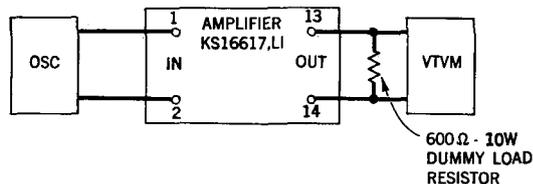

Fig. 7 - Test Setup for Adjusting Voice-Operated Relay Circuit
7.01 The voice-operated relay circuit is adjusted by means of the OPERATE and RELEASE controls on the apparatus side of the chassis. These controls should be adjusted with the amplifier in the same position it would be when mounted in the bay since its position has a bearing on the relay operate and release currents. The test setup is shown in Fig. 7. Chart VII outlines the step procedure to be followed in making the test. This is a performance test. The OPERATE and RELEASE controls
2	Connect circuit as shown in Fig. 7.
19	Without changing OSC output setting, reconnect circuit as shown in Fig. 7.